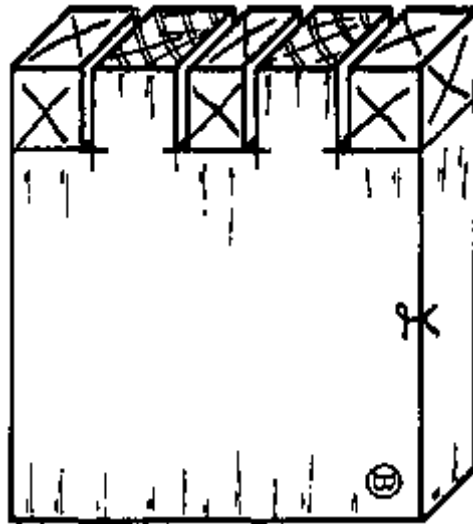

Fig. 5
- Rip the sides of the tenons down to the gauge line (Fig. 5). Saw on the waste side of the line.